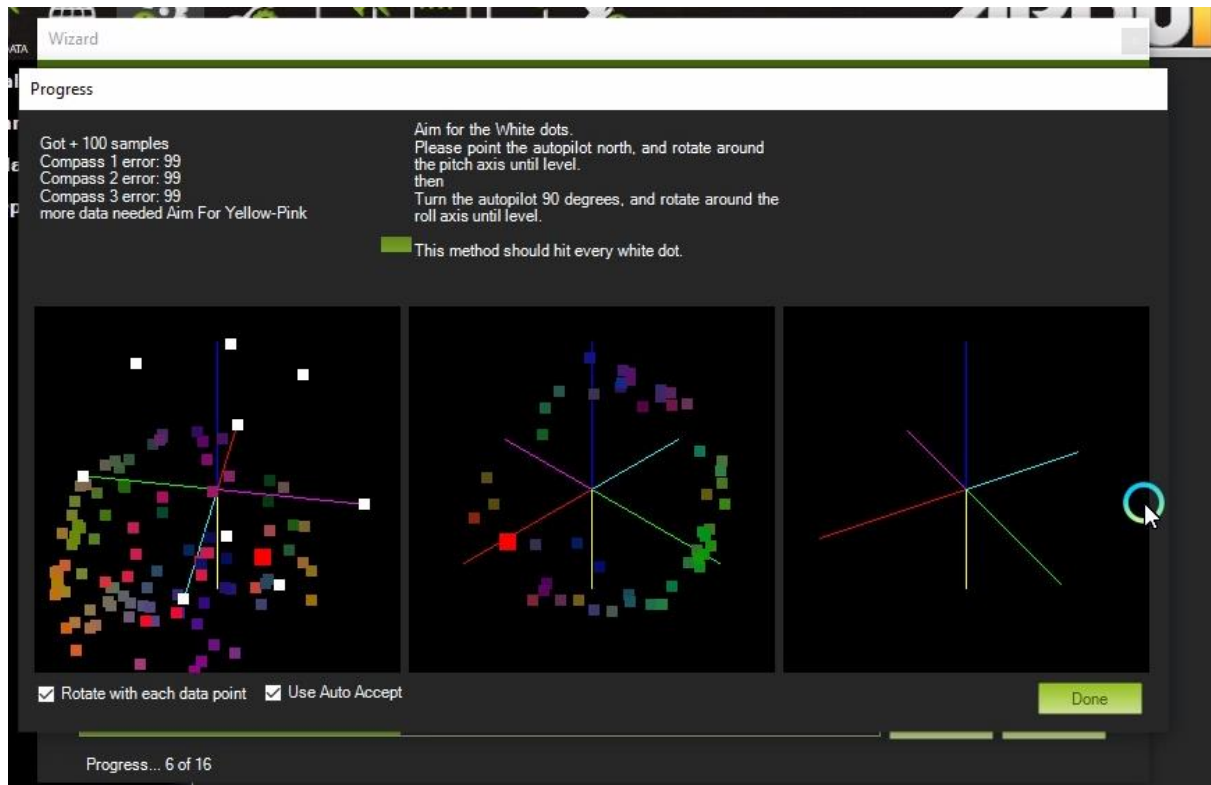

Fig.4.9
10. Now, a new window will open. (Refer.Fig.4.9) Rotate the model (360 degrees) till the window gets automatically closed/calibrated successfully. It will show the new offset values. Now click OK and then Next.